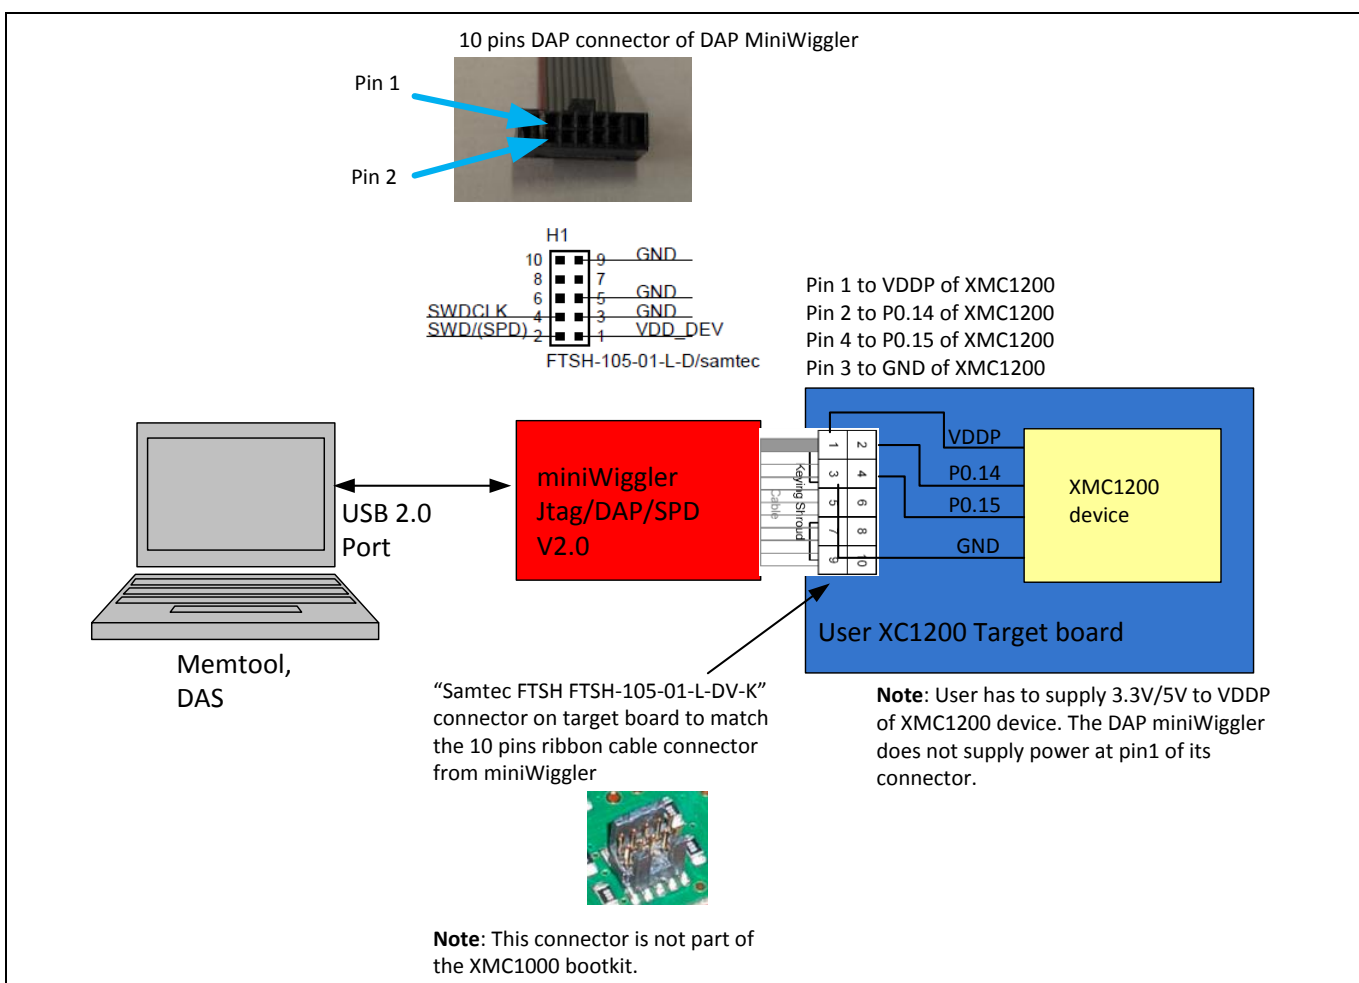

Figure 12 Connection diagram between DAP miniWiggler v2.0 and XMC1200 target board
4. Click [5] “OK”. Plug the DAP miniWiggler to the USB port of the Host PC and connect the 10-pin connector of the DAP miniWiggler to the XMC1200 target board as show in Figure 12.